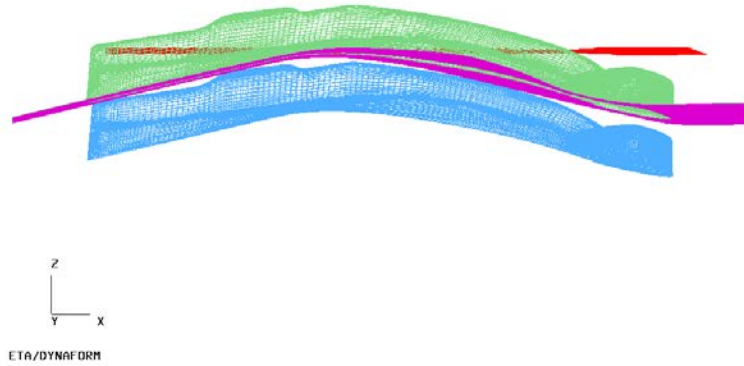

Figure 1.29 Animation of tool movement
4. It will display the positions of all tools relative to their original states on the screen. See Figure 1.29.